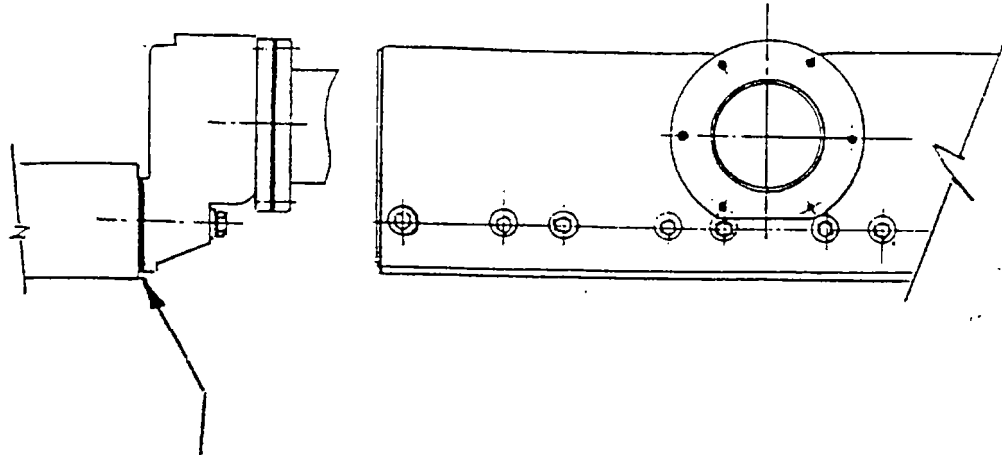

Figure 8. Gasket Between Exhaust Manifold and Engine
- (WEEKLY) 13. ( ) A steel gasket (2 pieces) is installed between the exhaust manifold and the engine head as shown in Figure 8.